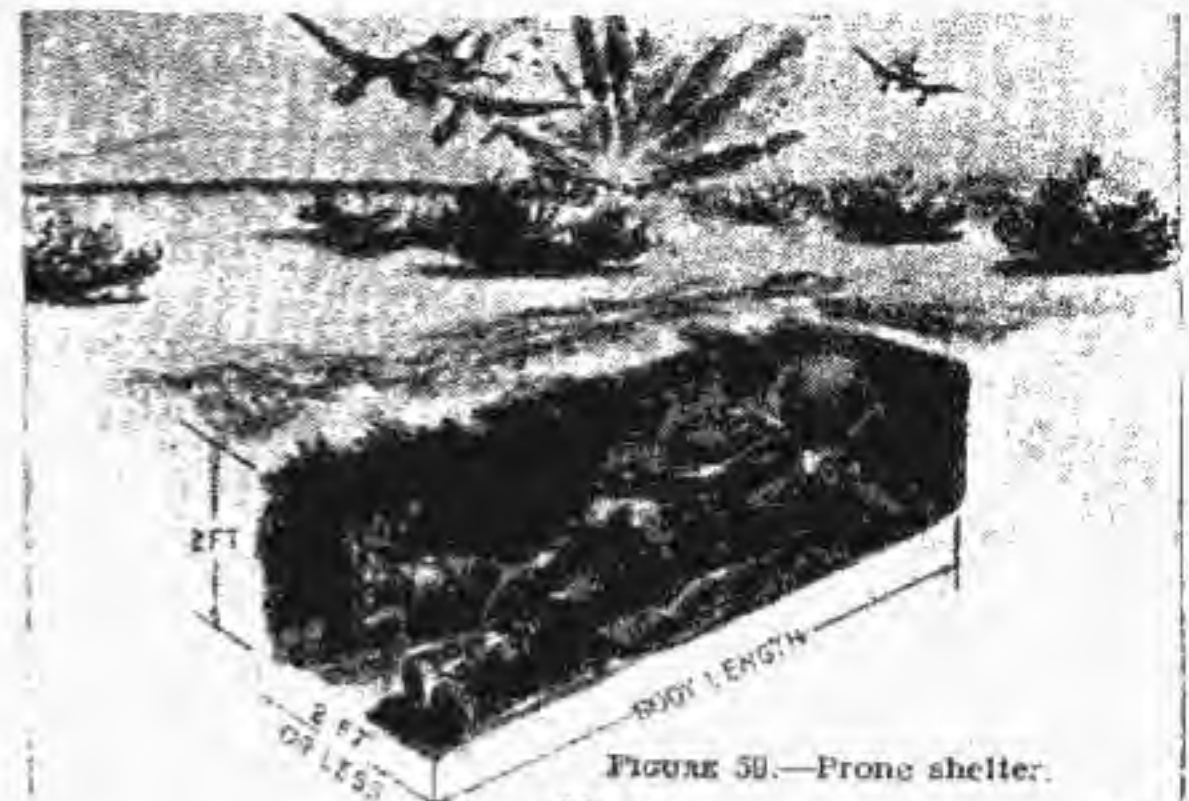

FIGURE 59.—Prone shelter.
(4) Obstacles.
(5) Covered approaches.
■ 34. PRONE SHELTER (fig. 59).—When you are halted for more than a few minutes and are out of contact with the enemy, the prone shelter should be built. It is comparatively easy to construct and it protects you from bomb fragments. You can lie down in it and rest. But it does not protect you against the crushing action of tanks.